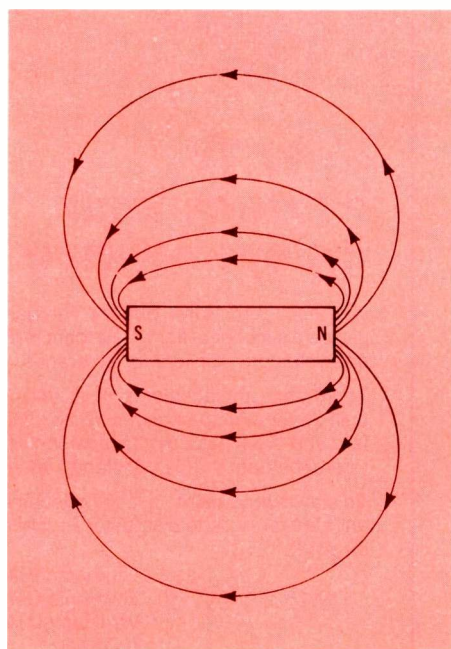

Figure 1 Magnetic flux lines
A favorite school experiment is to place a piece of paper over a magnet and sprinkle iron filings on the paper. The filings concentrate over the magnet in curves showing the locations of the flux lines, as shown in Figure 1.
**Figure 1** The Sylvania E44 chroma module is located near the center of the chassis. Three video drive and three screen-grid controls project from the rear of the module.
Four transistors, one IC, and other necessary components of the video circuit are located on the chroma module, which is mounted near the center of the main horizontal chassis (see Figure 1).
The three power transistors that drive the picture-tube cathodes are mounted on the circuit-board/CRT socket (under the protective cover in Figure 1).